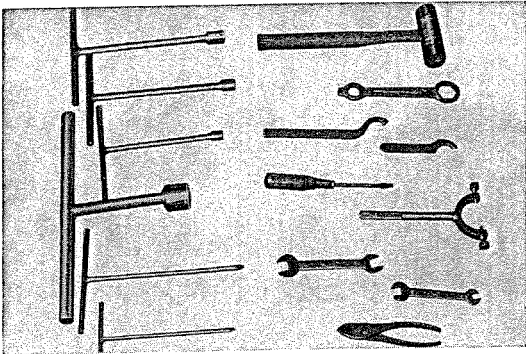

Fig. 4.36 Tools required for disassembly and assembly of frame body
1. Tools required for disassembly and assembly of the frame. (Refer to Fig. 4.36)